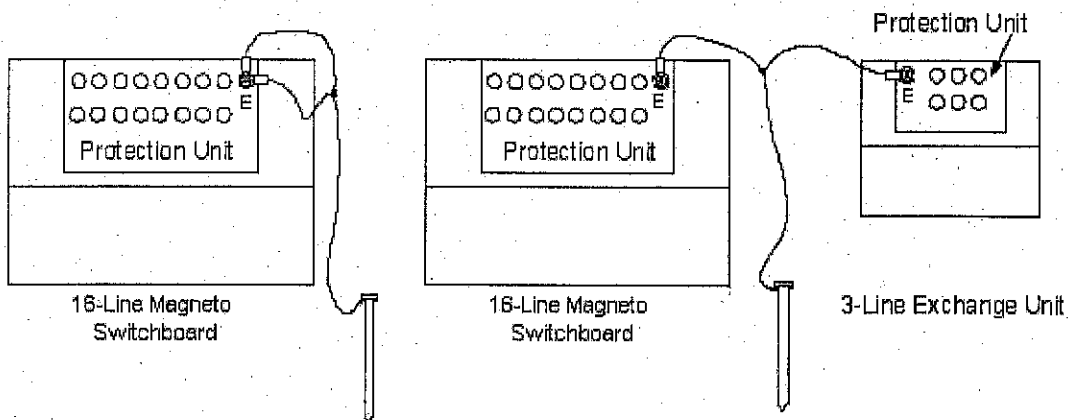

Fig 13 TYPICAL EARTH SPIKE BRAID CONNECTIONS
- (5) LINK key Similar to Sub-para (4), but coloured blue and giving access to Link No's 3 and 4 respectively.
- (6) LINK key Similar to Sub-para (4), but coloured red and giving access to Link No's 1 and 2 respectively.
- (7) CALL / CLEAR visual indicators
- (a) Call Normally black but on receipt of subscriber ringing current a red indicator disc appears; this cancels to black on operation of the SPEAK key, (Sub-para (1) refers).
- (b) Clear When subscriber 'rings off' a green indicating disc appears; this cancels to black when the appropriate Link key is reset to its centre ('off') position. (Sub-para (4), (5) and (6) refer).
- (8) EXTN UNIT A 41-way socket enabling the connection of either an Exchange Unit or a second 16-LINE Unit; or both when used with item (16).
- (9) EXTL RINGER Two spring-loaded terminals for connecting an external ringer to the equipment, eg a Telephone Type J, in the event of failure of the internal ringer.
- (10) FS1 and FS2 A pair of cartridge type fuse holders containing 1 Amp fuses.
- (11) EXTL DC Two spring-loaded terminals for connecting an external battery or DC source to the Equipment. (Voltage limits 20 to 33 V DC).
- (12) 16-LINE PROTECTION UNIT The 16-Line Protection Unit contains a pair of gas discharge tubes for each pair of lines, and 16 pairs of spring-loaded terminals for line termination. A captive connector is attached with a 41-way plug for connecting to the LINE TERM socket on the Switchboard. (Sub-para (15) refers). An Earth terminal 'E' is also provided to which the Earth Spike braid MUST be connected by use of the forked spade terminations. (For connections see Sub-para 1-23-5, Fig 13.)
- (13) TEST METER Used in conjunction with the ON / OFF/ TEST switch to measure the internal or external battery voltage.
- (14) LINK ENGAGED indicators Seven indicators, one for each Link. Normally black, indicating that the Link is free. A white disc indicates that the associated Link is in use, ie that a Link key in that row is operated. The white disc cancels to black when all the Link keys in that row are reset to their centre 'off' position.
- (15) LINE TERM A 41-way socket to which is coupled the 16-LINE Protection Unit.
- (16) EXTN UNIT A 41-way socket identical to that described in Para (8).
- (17) ON / OFF / TEST switch A 3-position switch used as a battery power ON / OFF switch and also, in conjunction with the Test Meter (Sub-para (13)), to measure the internal or external battery voltage
- (18) HANDSET A 7-way socket for the Hand / Headset connection. Clansman type handsets can be used as an alternative to the handset provided.
- (19) SOFT / OFF / LOUD alarm A 3-position switch enabling the Operator to set the Audible Alarm system to the required state.
- (20) SWITCHBOARD A 41-way socket used for inter-connection to the Magneto Switchboard.
- (21) CALL / CLEAR indicators Three pairs of disc indicators, one pair for each of the exchange lines. Red disc indicates calling signal, green disc indicates clearing signal. Cancelling action similar to that described in Sub-para (7).
- (22) TERM UNIT A 10-way socket used for connecting the 3-LINE Protection Unit.
(23) 3-LINE PROTECTION UNIT This unit contains three pairs of spring-loaded terminals for Exchange line termination and two cartridge type fuses, it also contains a pair of voltage protection devices for each of the three lines. A captive connector is attached with a 10-way plug for connecting to the TERM UNIT socket on the Exchange Unit. An Earth terminal 'E' is also provided to which the Earth Spike braid MUST be connected by use of the forked spade terminations. (For connections see Sub-para 1-23-5, Fig.13.)
(24) PUSH BUTTON DIALLER A set of 10 push buttons numbered 1 to 9 plus 0. These must be pressed to accord with the code number of the subscriber required; used in conjunction with the DIAL key to send the appropriate pulses to the line.
See also Fig 13.
(1) Release the four securing clamps on the Exchange Unit and remove the cover.
(2) Remove the 3-LINE Protection Unit and the 10-way connector from the cover.
(3) Place the cover (inside uppermost) on a table or other flat surface, adjacent to the Magneto Switchboard on the right or left hand side whichever is convenient.
(4) Stand the Exchange Unit on its cover and fit it into the curved brackets in a manner similar to that used when assembling the Magneto Switchboard.
(5) Position the 3-LINE Protection Unit on the top of the Exchange Unit, with the terminals at the rear, so that the two captive screws mate with the holes in the top of the Exchange Unit, tighten the screws.
(6) Connect the 10-way cable attached to the 3-LINE Protection Unit to the socket marked TERM UNIT on the front panel of the Exchange Unit.
(7) Remove one of the Earth leads spade terminations currently on the earth terminal 'E' of the 16-LINE Protection Unit and attach it to the earth terminal 'E' on the 3-LINE Protection Unit so that both Protection Units are interconnected and both attached to the Earth Spike. See also Fig 13.